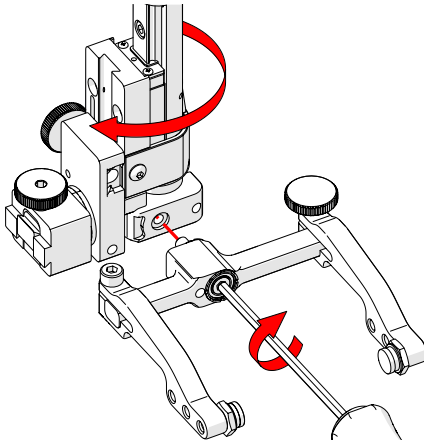

Fig. 61 - Screw yoke to opposite side
6. Mount the yoke to the opposite side of the base using the supplied 3 mm hex driver (Fig. 61).